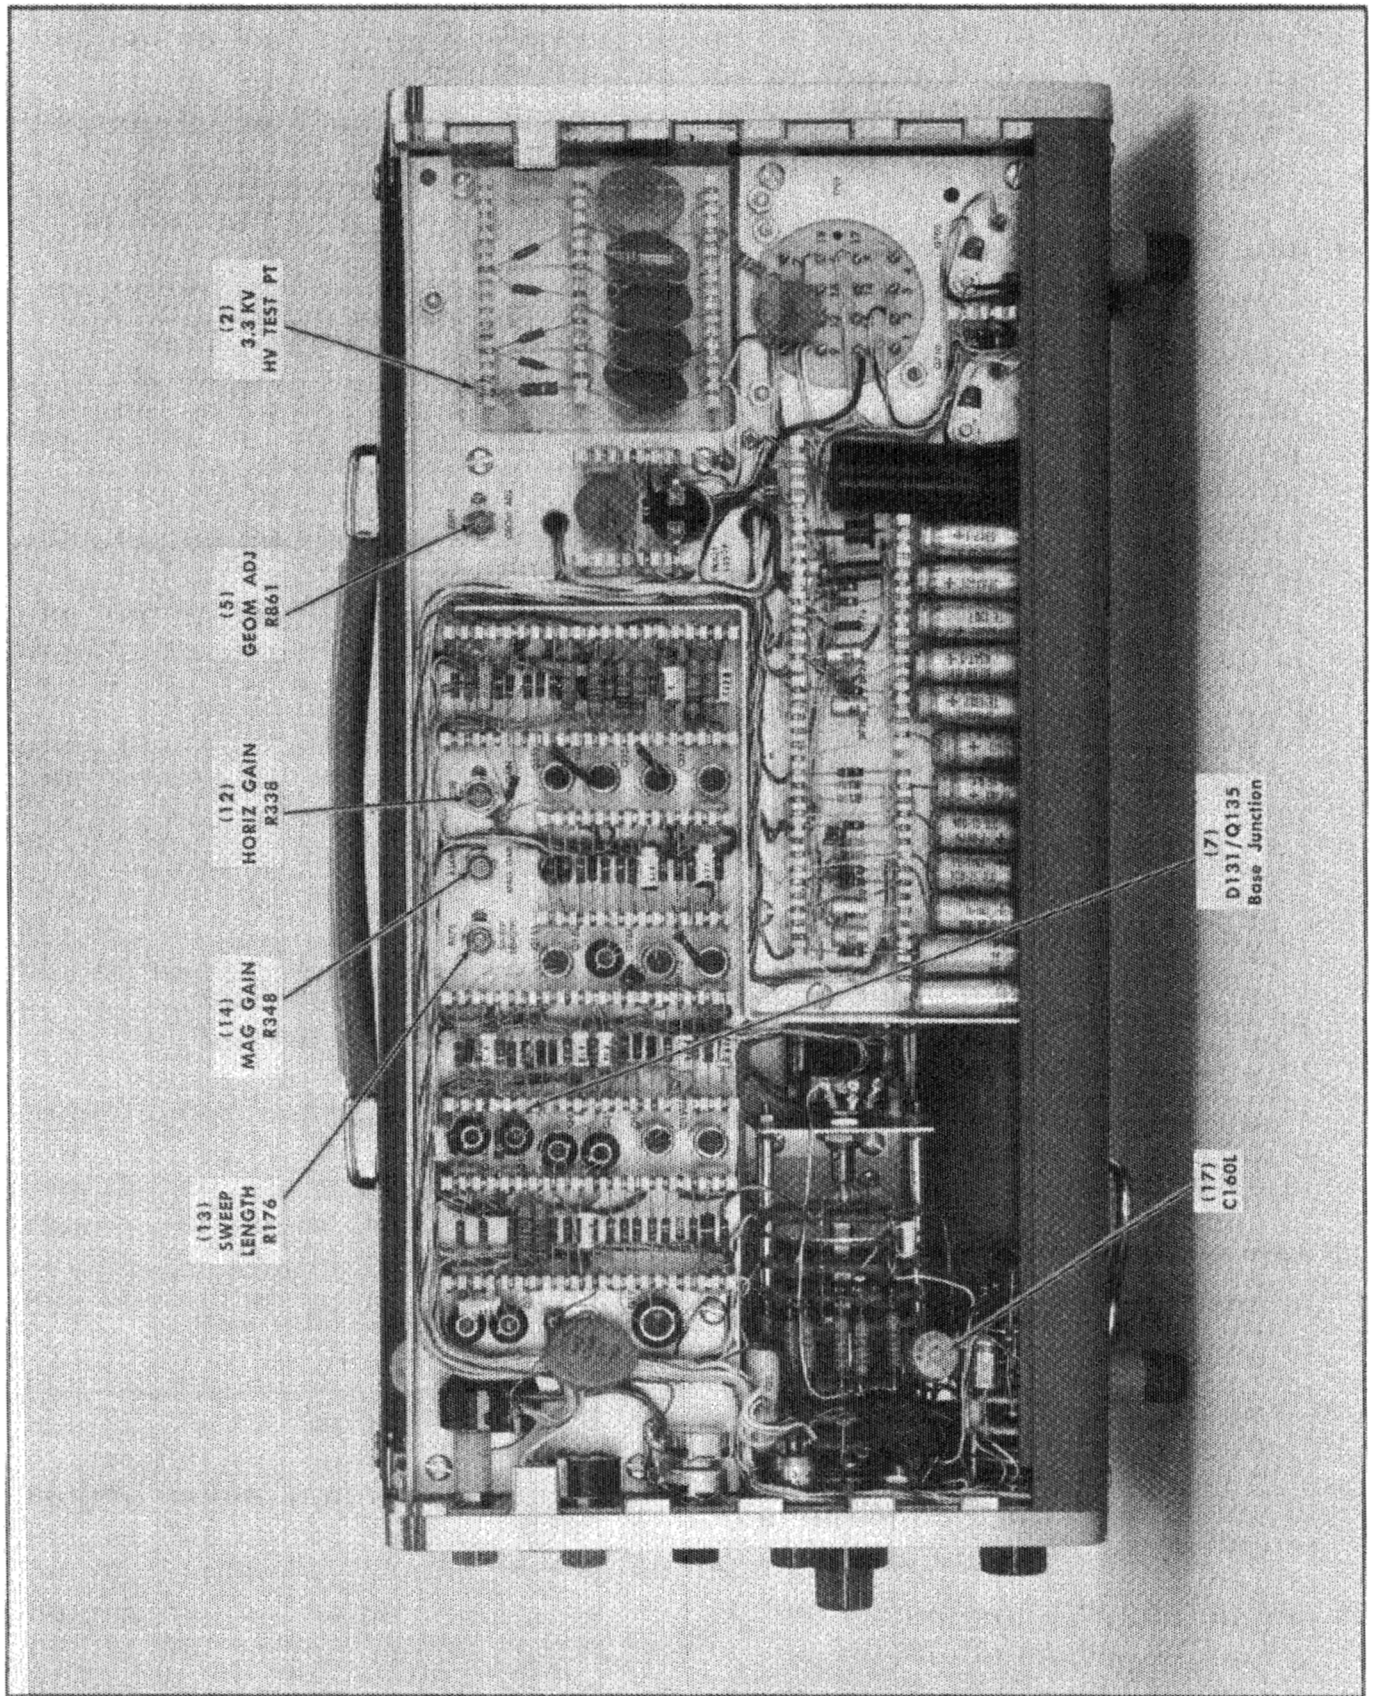

Fig. 6-6. Right-side view of the Type 321A Oscilloscope. The numbers in parenthesis refer to steps in the Calibration procedure.
- d. Adjust the HORIZ GAIN R338 control (see Fig. 6-6) for one highest (1 millisecond) marker per division. Use the HORIZONTAL POSITION control to align the 1-millisecond markers with the graticule lines. The circuit must calibrate between the 1- and 9-division graticule lines in this step and when performing steps 15, 17, and 18.
- b. Adjust the SWEEP LENGTH R176 control (see Fig. 6-6) for five short (100- μ sec) markers after the 11th 1-millisecond marker. This is equivalent to a sweep length of 10.5 major divisions.
- b. Adjust the MAG GAIN R348 control (see Fig. 6-6) for 1 highest (1-millisecond) marker per 5 major divisions and 2 short (100- μ sec) markers per 1 major division.
- d. Adjust C160L (see Fig. 6-6) for 1 marker per 2 major divisions over the center 8-major division portion of the graticule.